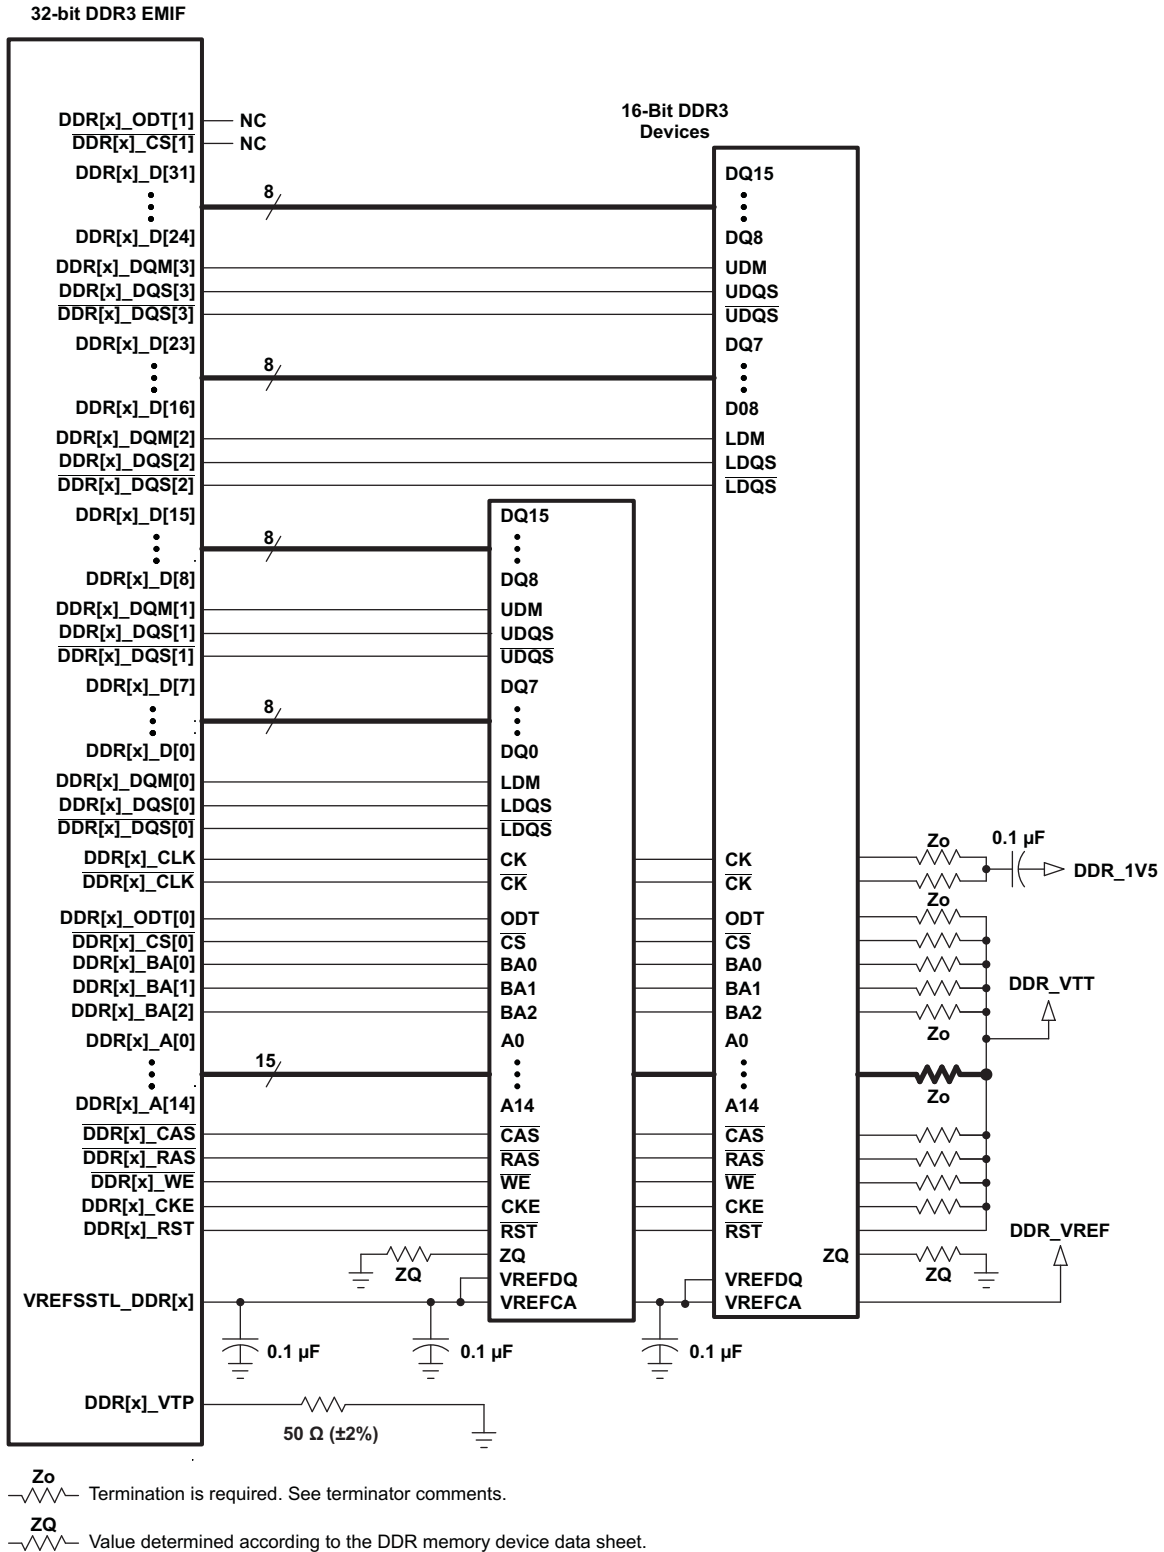

Figure 8-54. 32-Bit, One-Bank DDR3 Interface Schematic Using Two 16-Bit DDR3 Devices
The DDR3 interface schematic varies, depending upon the width of the DDR3 devices used and the width of the bus used (16 or 32 bits). General connectivity is straightforward and very similar. 16-bit DDR devices look like two 8-bit devices. Figure 8-54 and Figure 8-55 show the schematic connections for 32-bit interfaces using x16 devices.
Note that the 16-bit wide interface schematic is practically identical to the 32-bit interface (see Figure 8-54 and Figure 8-55); only the high-word DDR memories are removed and the unused DQS inputs are tied off. The processor `DDR[x]_DQS[2]` and `DDR[x]_DQS[3]` pins should be pulled to the DDR supply via 1-k $\Omega$  resistors. Similarly, the  `$\overline{\text{DDR[x]_DQS[2]}}$`  and  `$\overline{\text{DDR[x]_DQS[3]}}$`  pins should be pulled to ground via 1-k $\Omega$  resistors.
(1) DDR3 speed grade depends on desired clock rate. Data rate is 2x the clock rate. For DDR3-800, the clock rate is 400 MHz.
(2) DDR3 devices with speed grades up to DDR3-1600 are supported; however, max clock rate will still be limited to 400 MHz as stated in *Switching Characteristics Over Recommended Operating Conditions for DDR3 Memory Controller*.
(3) For valid DDR3 device configurations and device counts, see Section 8.13.4.2.4, Figure 8-54, and Figure 8-55.